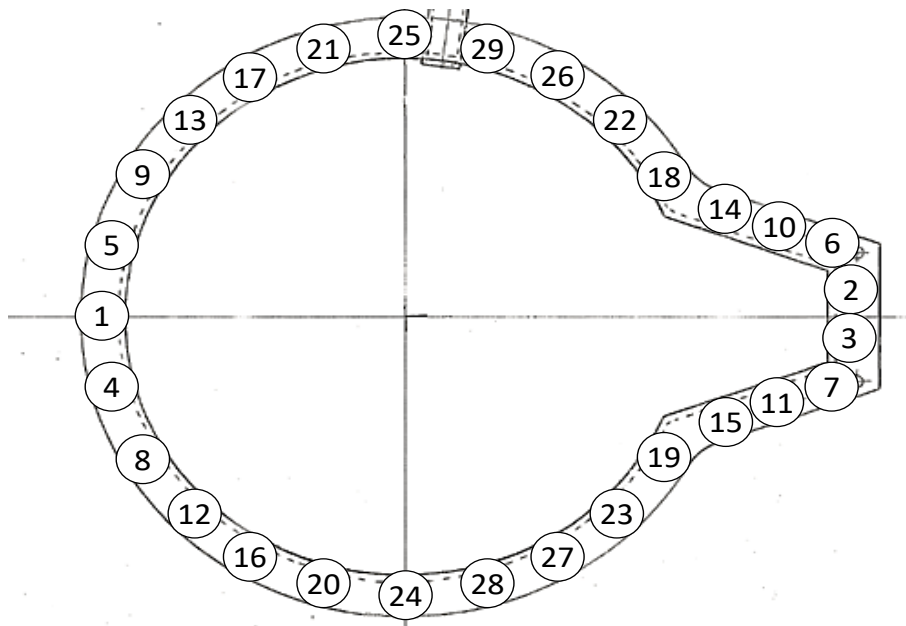

Figure 1. Illustration of 'Spiral Pattern' for tightening sequence of bolts/nuts
- 4.3. Torque bolts/nuts in a clockwise "SPIRAL" pattern to the required torque value of 210 Nm as shown in Figure 1. Start at Position 1 and move sequentially up to Position 29. Repeat this sequence three (3) times as follows: